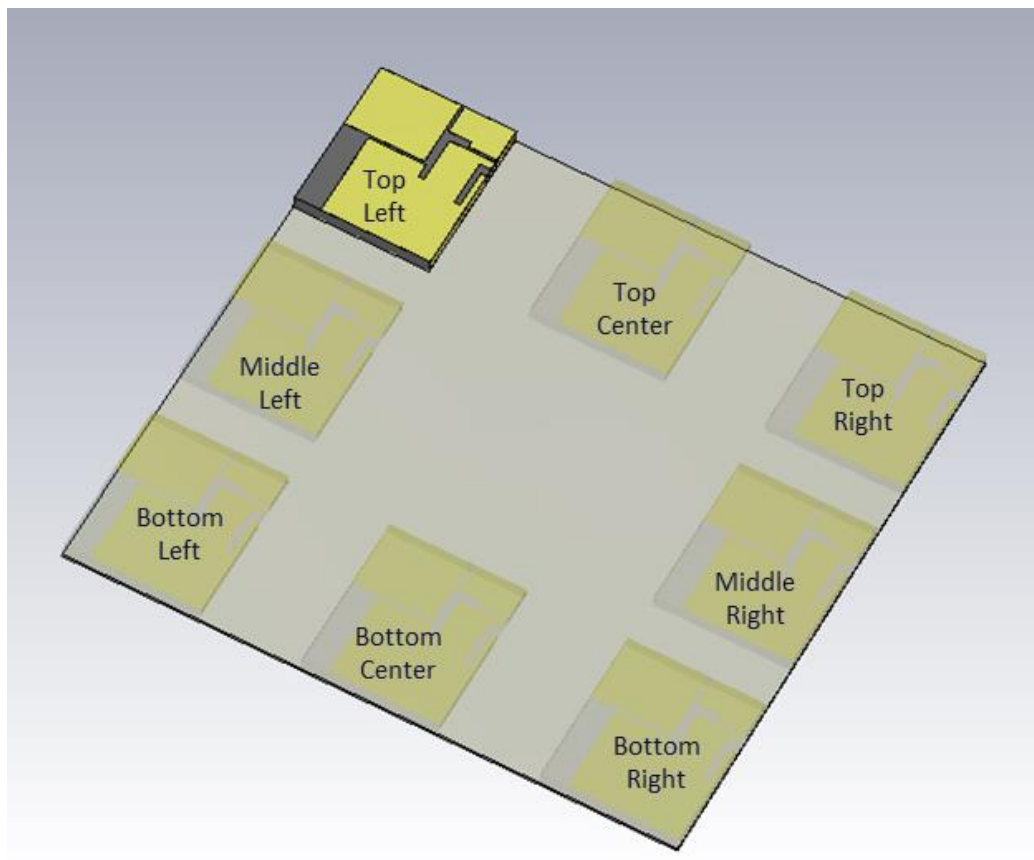

Figure 5: Possible edge placements on a 100 mm X 100 mm ground plane
The reference position for the mFlexPIFA dual-band antenna on a 100 mm X 100 mm ground plane is centered. However, the antenna may be placed at various edge positions with a minimum of degradation. The preferred edge positions are the middle and bottom left positions. However, if the top position is desired, expect small degradations in VSWR 2.5:1 to 2.6:1 in the 2.4 GHz band and 3.0:1 to 3.5:1 for the 5 GHz band. The edge positions used in the perturbation study are shown in Figure 5.
- Edge positioning on ground plane: Middle and bottom positions are preferred as shown in Figure 5.